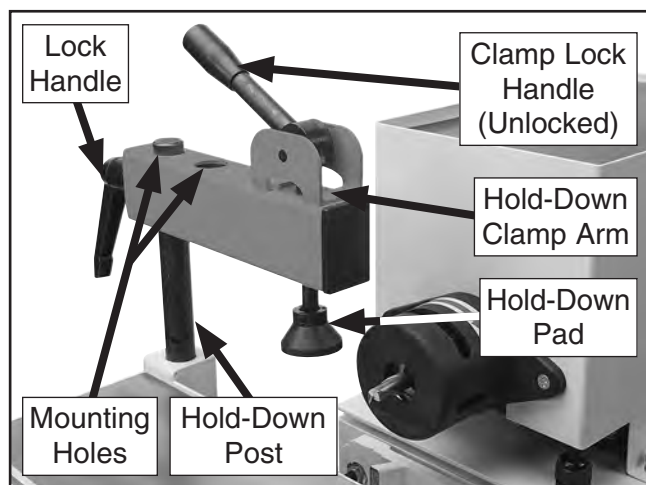

Figure 22. Hold-down clamp assembly components.
The Model G0846 table features an adjustable hold-down clamp assembly to secure your workpiece to the table during boring operations. Always clamp your workpiece to the table. Place the hold-down clamp assembly in the hold-down post mounting hole (see **Figure 22**) that best supports the workpiece.
1. With clamp lock handle in unlocked position (as shown in **Figure 22**), loosen lock handle and center hold-down clamp arm and hold-down pad over workpiece.